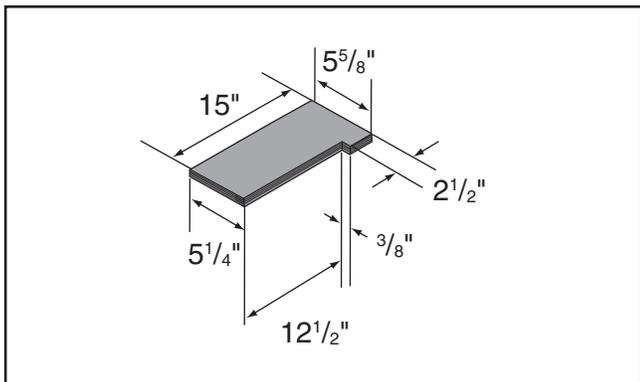

Figure 127. Push block base pattern.
- Cut a piece of plywood 15" long and 5 1/4" wide for the base of a push block, then cut off a strip 3/8" wide by 12 1/2" long (see **Figure 127**).